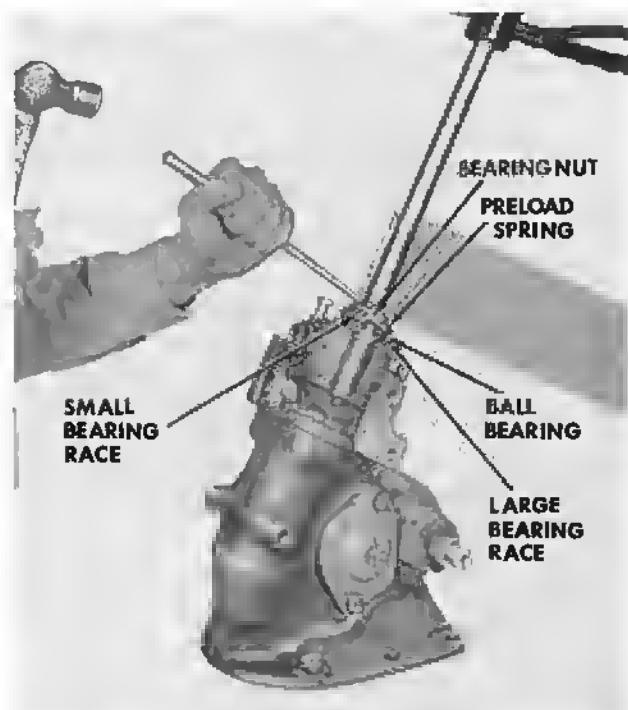

Figure 19 - Staking the Thrust Nut to the Steering Shaft
8. Grip the steering wheel to prevent the shaft from turning and tighten the lock nut until it seats firmly against the valve spool. Back the nut off about $1/6$ turn and stake the nut to the groove in the shaft. Support the shaft from the opposite side of the groove as shown in Figure 19 while staking the nut in order to prevent damage to the shaft.